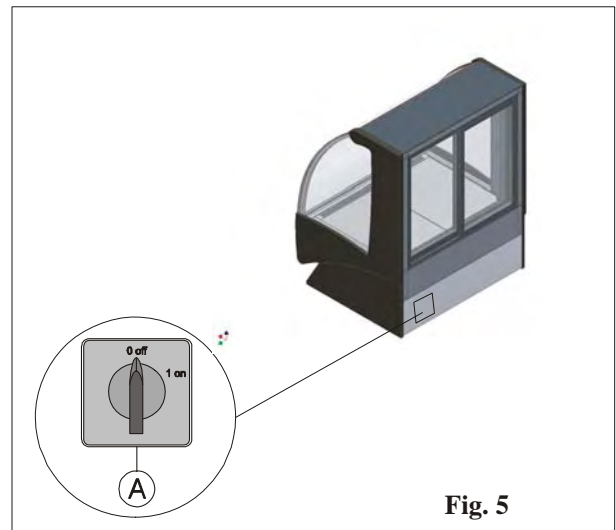

Fig. 5
- 2) Activate the display cabinet master switch, which is found on the rear protection panel. To introduce the electric power supply to the display cabinet, place the master switch at position "1" (fig. 5 pos. A).
To stop the plant act on switch (A), which is found behind the rear protection panel. Position the master switch at “0” (fig. 5 pos. A) disconnecting the display cabinet power supply.
After turning off the power to the machine, you must then disconnect the main switch, which is located on the lower rear, left side of display cabinet. (see fig 5)